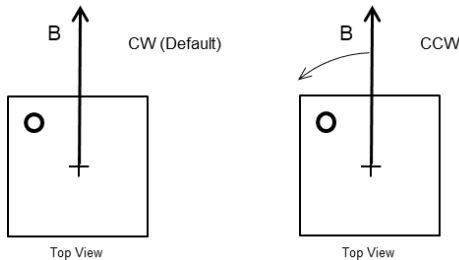

Figure 25: Positive Rotation Direction of the Magnetic Field
When looking at the top of the package, the angle increases when the magnetic field rotates clockwise (CW) by default (see Figure 25).